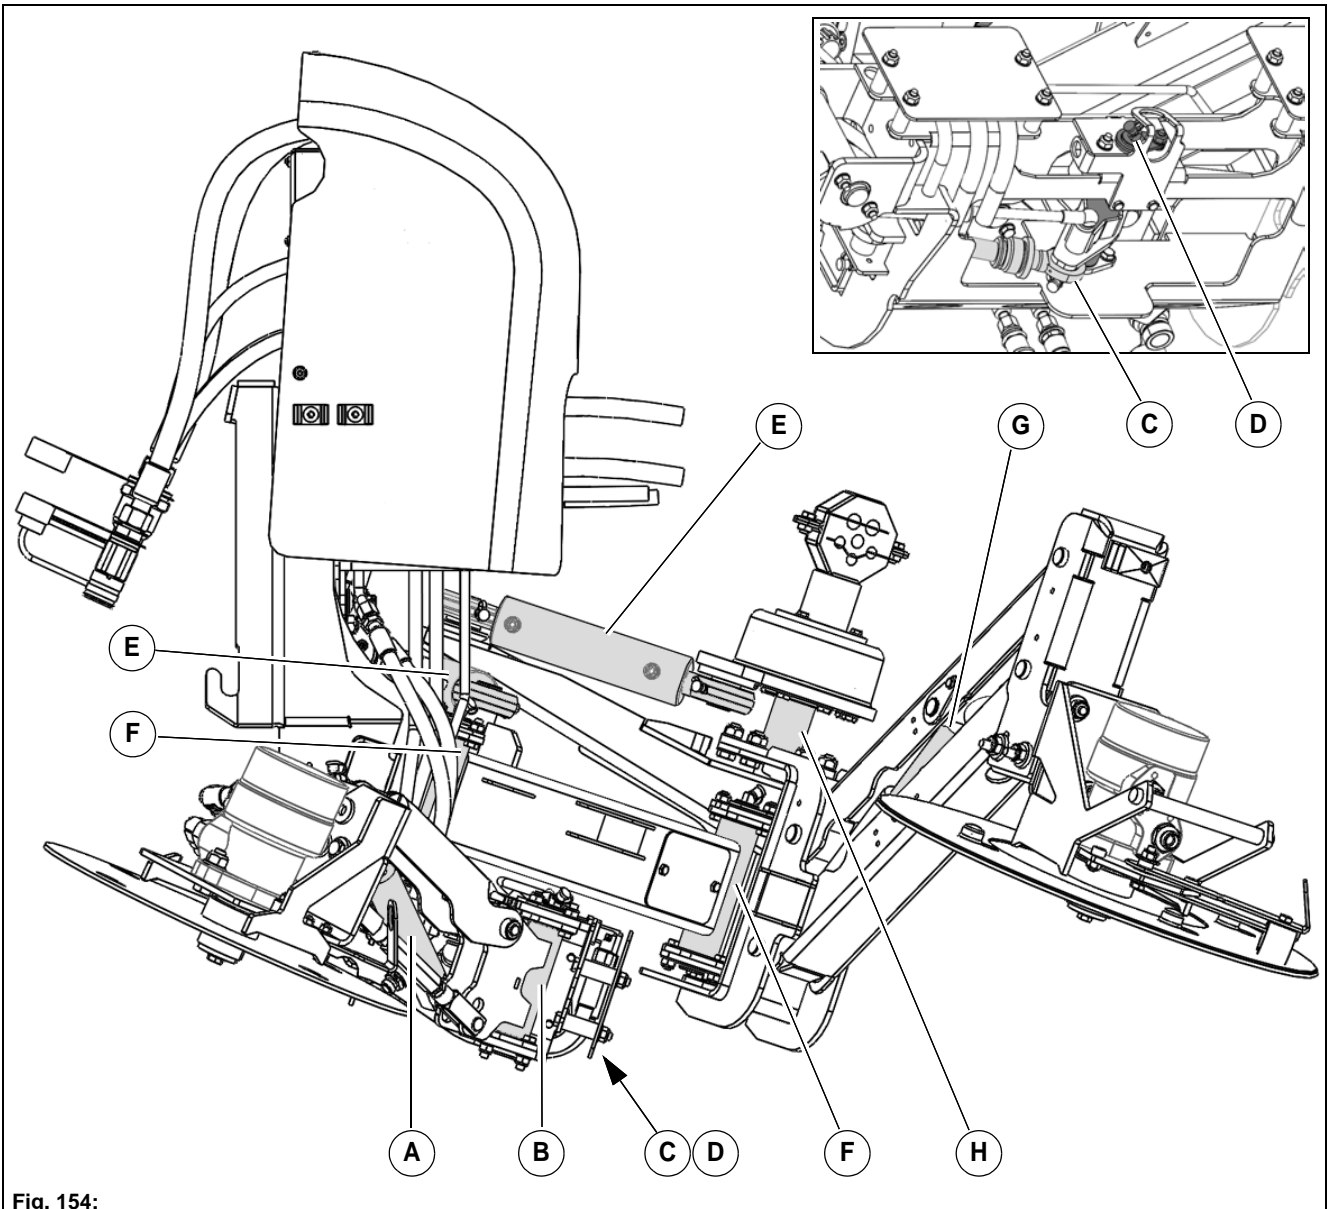

Fig. 154:
- at the hydraulic cylinders on the left and right **Fig. 154-A** (x 4)
- at the bearing bolts in the left and right panel **Fig. 154-B** (x 2)
- at the hydraulic cylinder for the sweeping width **Fig. 154-C** (x 2)
- at the bearing bolts in the rocker **Fig. 154-D** (x 1)
- at the hydraulic cylinders of the horizontal arm **Fig. 154-E** (x 4)
- at the bearing bolts of the horizontal arm **Fig. 154-F** (x 4)
- at the hydraulic cylinder for the vertical arm **Fig. 154-G** (x 2)
- at the bearing bolt for the coupling **Fig. 154-H** (x 1)